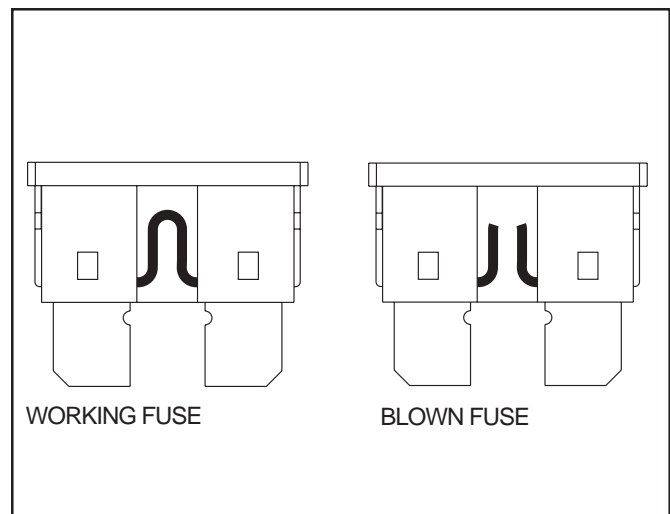

Figure 19. Fuse Replacement
- Check the fuse located on the red power wire near the battery. If blown, replace with a new 25-amp fuse. **See figure 19.**